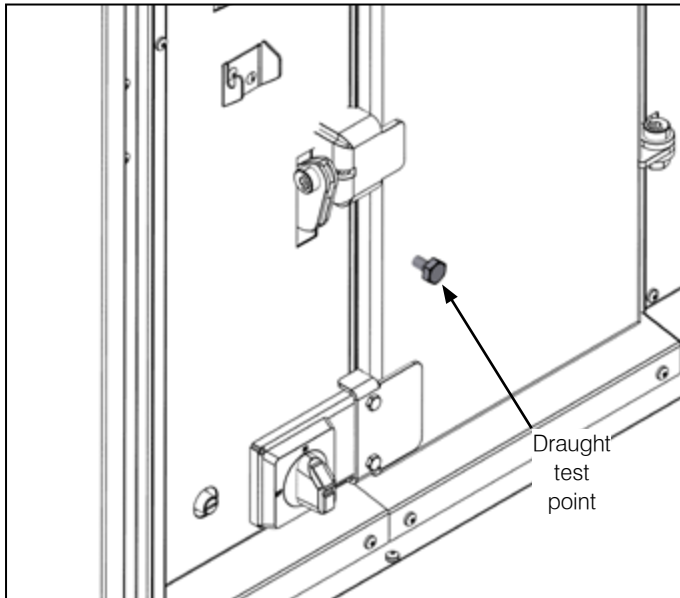

Figure 11-10: Draught test point
- Remove the screw from the draught test point, located to the bottom left corner of the combustion chamber door. Refer to Figure 11-10.